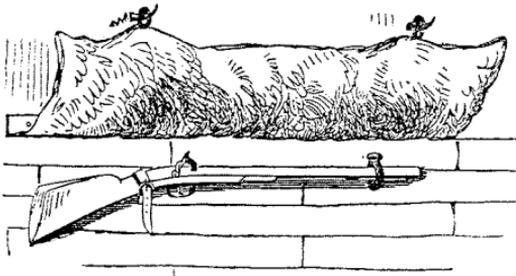

Fig. 1.
**Guns to hang up, to carry, and to clean.**—*Hanging Guns to a Wall.*—Fix a loop of leather for the muzzle, and a strap and buckle for the stock, with a piece of sheepskin or canvas nailed so as to hang over it, as in fig. 1. A more complete way is to sew a long pocket with a flap to it, which is tied up on to a stick or bar, as in fig. 2: the gun has simply to be